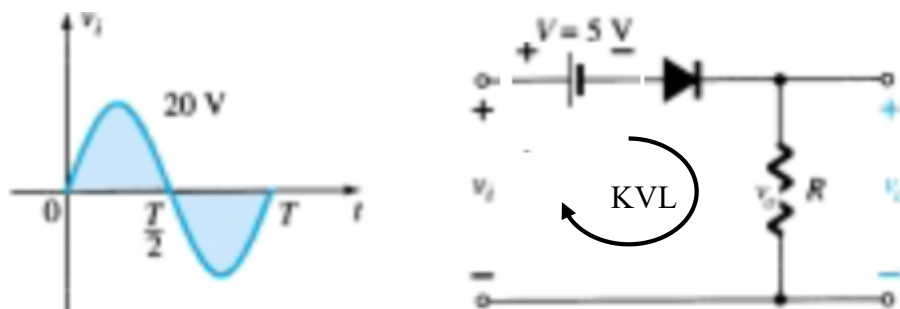

Figure 2.23: Example 2.
**Example 2:** Determine the output waveform for the circuit of Figure 2.23.